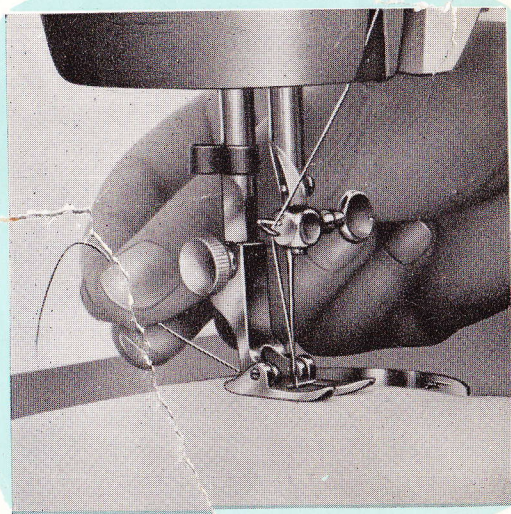

Fig. 13
4. Place ends of the upper and lower threads between the toes of the presser foot and pull them backwards under the presser foot (Fig. 13).